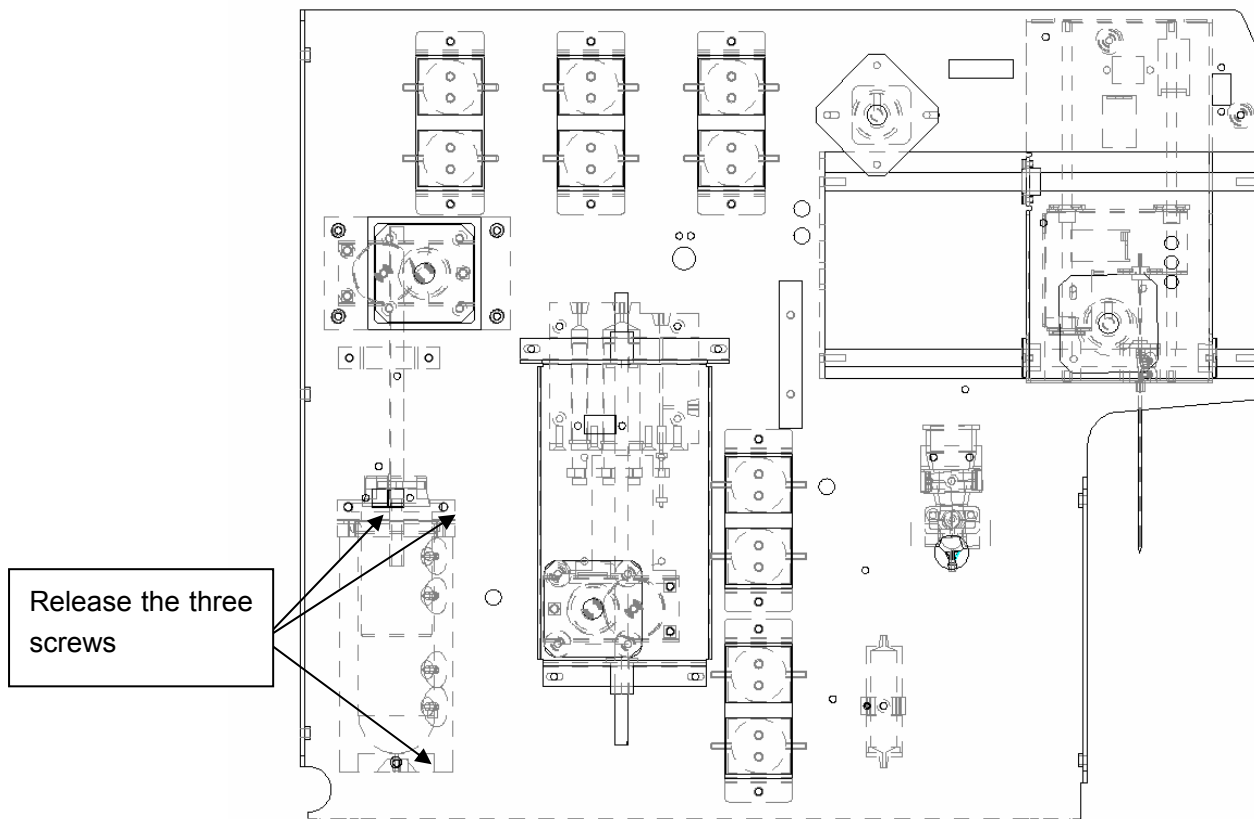

Figure 4-2-1
1) Pull the piston of the negative pressure syringe to the highest position, and then unscrew the three screws to fix the negative-pressure syringe components, and remove the syringe main body from the inner board. As shown in Figure 4-2-1.